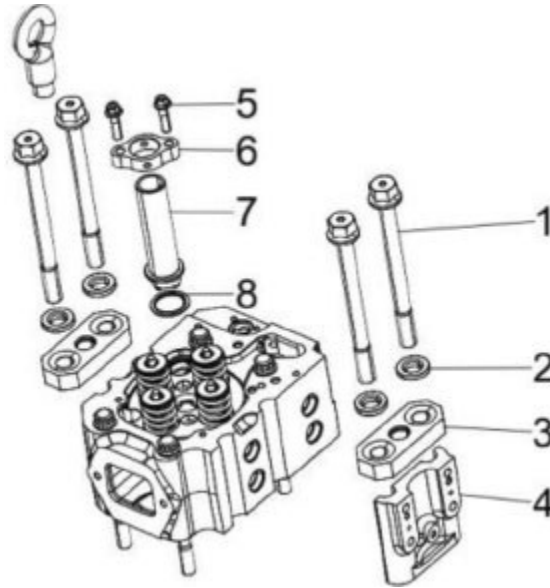

Figure 50. Cylinder Head Assembly
3. Remove the cylinder secondary bolts (Figure 50, item 1). Remove the gasket (Figure 50, item 2), clamping block (Figure 50, item 3) and end plate (Figure 50, item 4).
4. Loosen the bolts (Figure 50, Item 5) and remove tube clamp (Figure 50, Item 6).
5. Remove the ignition coil bush (Figure 50, Item 7) and the gasket (Figure 50, Item 8).